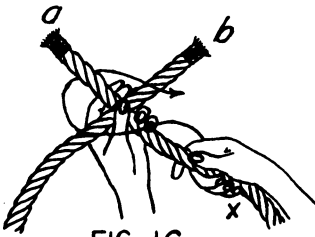
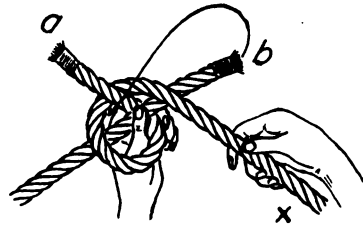
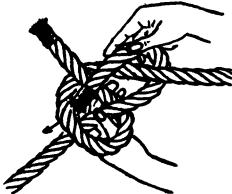
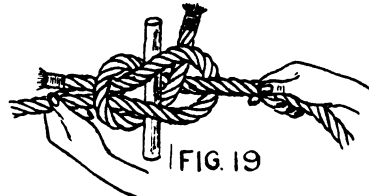

FIG. 16
FIG. 17
FIG. 18
FIG. 19
**Weaver's Knot or Sheet Bend.** This knot is easily made, is easily untied and never draws tight. Place the two ends of the rope together, the right *a* under the left *b* (fig. 16). Hold the two in place with the left hand, and with the right hand holding the rope at *x* pass it around the end *a*, as shown in fig. 17. Release the right rope at *x* (fig. 17) and with the right hand, pass the end *b* through the loop as shown in fig. 18. The knot is completed by pulling on the ropes as indicated in fig. 19. By inserting a wooden stick or "toggle" into the knot, as shown in fig. 19, it may be more easily untied.